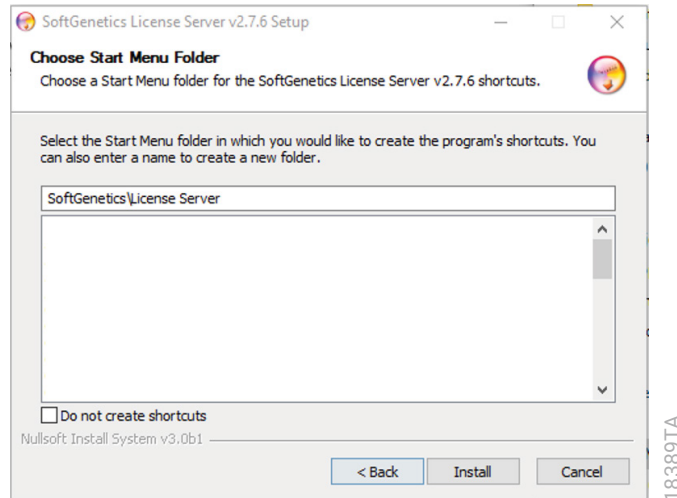

Figure 29. 'Choose Start Menu Folder' window.
12. Choose the Start Menu Folder for the software's shortcuts in the 'Choose Start Menu Folder' window (Figure 29), then select **Install**.